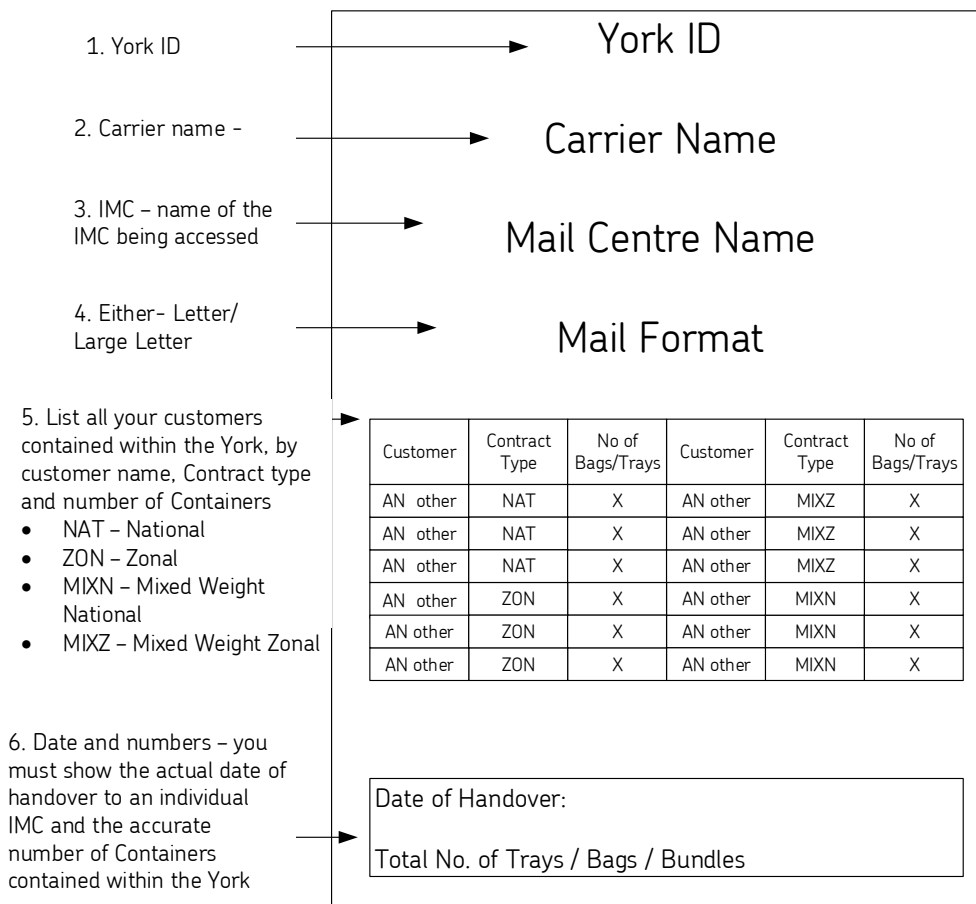

Figure 23: Segregation by Format York card
- If, on any Handover Day, you have more than 500 Containers to decant into Yorks at any one Inward Mail Centre, you must apply accurate York cards in the same way as if you were using Yorks to deliver, as set out in Figure 23 above (but only for those Inward Mail Centres where more than 500 Containers have been decanted).